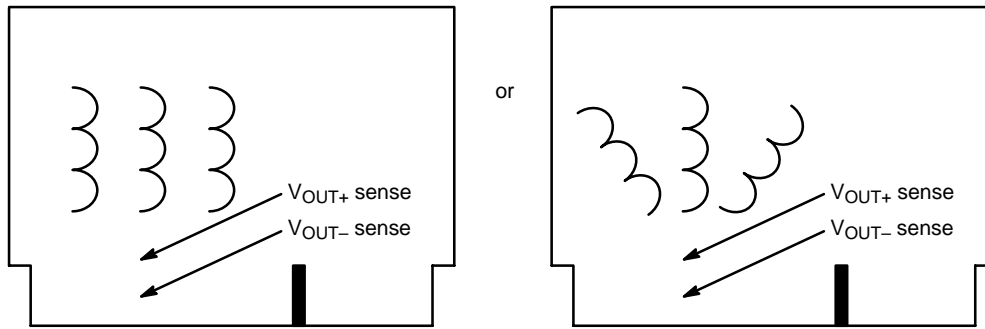

Figure 49.
- Differential noise across the PWM comparator can be further reduced if the  $V_{OUT+}$  and  $V_{OUT-}$  sense lines going to  $CS_{REF}$  and GND are paralleled to minimize loop area.  $V_{OUT+}$  ripple information provided to the PWM comparator via the  $CS_{REF}$  pin needs to be symmetric for all three phases or poor current sharing between phases will occur. This can be accomplished by placing the  $V_{OUT+}$  and  $V_{OUT-}$  sense locations symmetrically with respect to the three output inductors. See Figure 49.
- Frequency jitter could occur if the  $R_{OSC}$  pin (2) and OCSET pin (1) components are not properly located. Most layouts will have two resistors in series from  $R_{OSC}$  to GND. Keep these two components as close as possible to the IC and ensure a short ground connection to the IC GND. Provision for a small cap (1000 pF or less) from  $R_{OSC}$  to GND can be placed although this is rarely needed. If the  $R_{OSC}$  capacitor value is too large, the  $R_{OSC}$  voltage reference will oscillate.
- The  $V_{CC}$  (23) bypass capacitor (0.1  $\mu$ F or greater) should be located as close as possible to the IC. This capacitor's connection to GND must be as short as possible. The most effective way to implement this tight component placement is to via the GATE1, 2, 3 and DRVON runs to internal layers right at the IC pins.